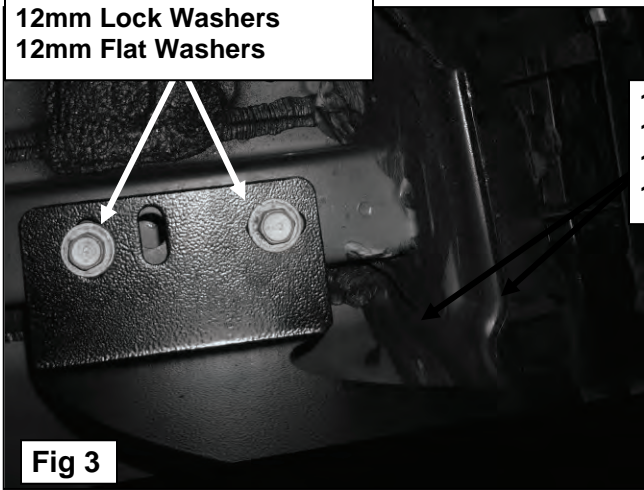

Fig 3
- Attach the driver side Frame Bracket to the bottom of the frame channel frame with the included (2) 12-1.25mm x 35mm **Special Fine Thread** Hex Bolts, (2) 12mm Lock Washers and (2) 12mm Flat Washers, **(Figure 3)**. Snug but do not tighten hardware at this time.